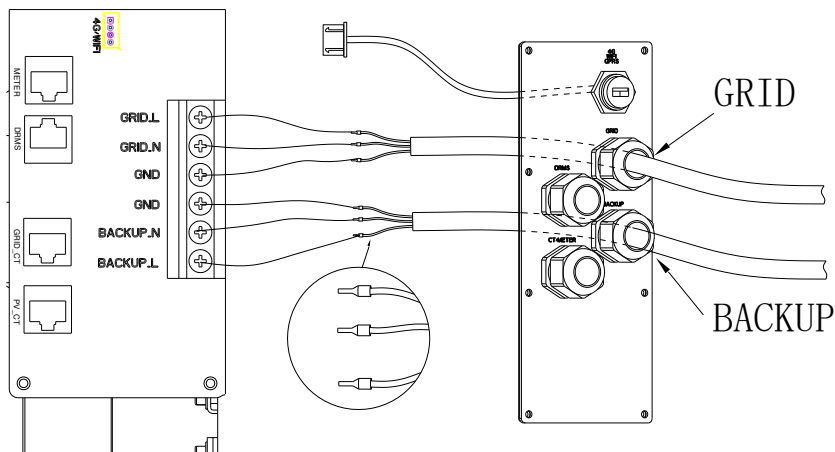

Fig.4.4 AS1 device wiring terminals
Step 2: After the cover plate removed, please lead one cable (Recommend conductor core size: 2.5mm^2) through the waterproof nut (GRID) and then use E6012 wire crimps to connect the wires to the terminal of GRIDL, GRIDN and GND2 properly (refer to Fig.4.4);
Step 3: Please lead another cable (Recommend conductor core size: 2.5mm^2) through the waterproof nut (BACKUP) and then use E6012 wire crimps to connect the wires to the terminal of BACKUP-L, BACKUP-N and GND1 accordingly (refer to Fig. 4.4);